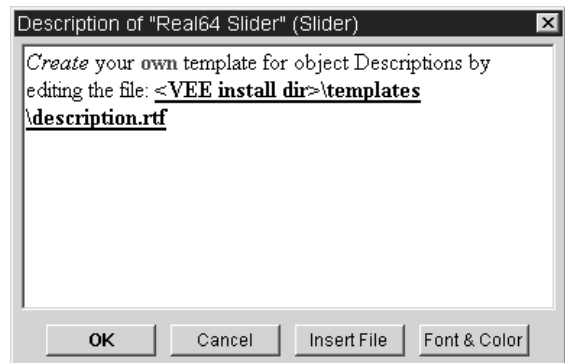

Figure 74 The Description Dialog Box
- 2 Delete the template information, as shown in Figure 74, from the **Description**.